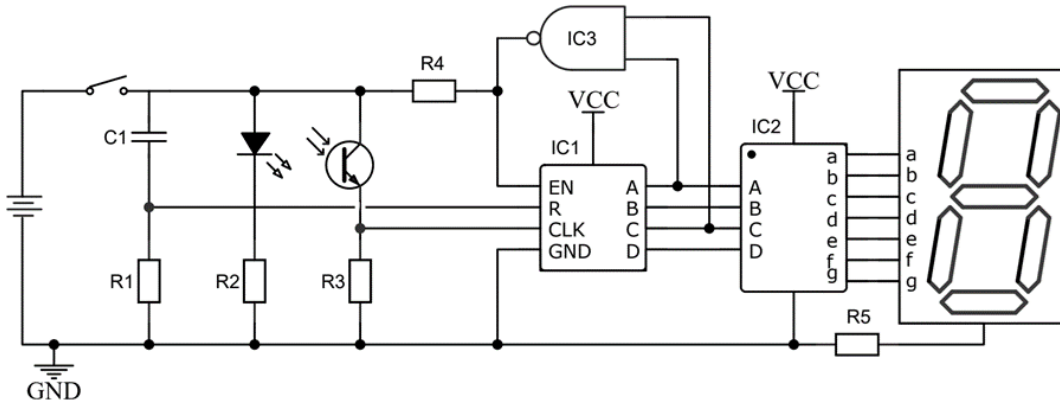

Figure 16: Circuit diagram for counting airport luggage.
Figure 16 is a counting circuit for determining the amount of airport luggage. A suitcase travelling between the **LED** and **phototransistor** interrupts the beam of light between the two components.
f) Which outputs of IC1 should be connected to IC3 (in Figure 16) so that counting now pauses after 9 bags have been counted?
h) When the circuit operates, it is found that the brightness of the display varies depending on what number is showing. Why is this happening, and what adjustment to the circuit in Figure 16 would fix this?